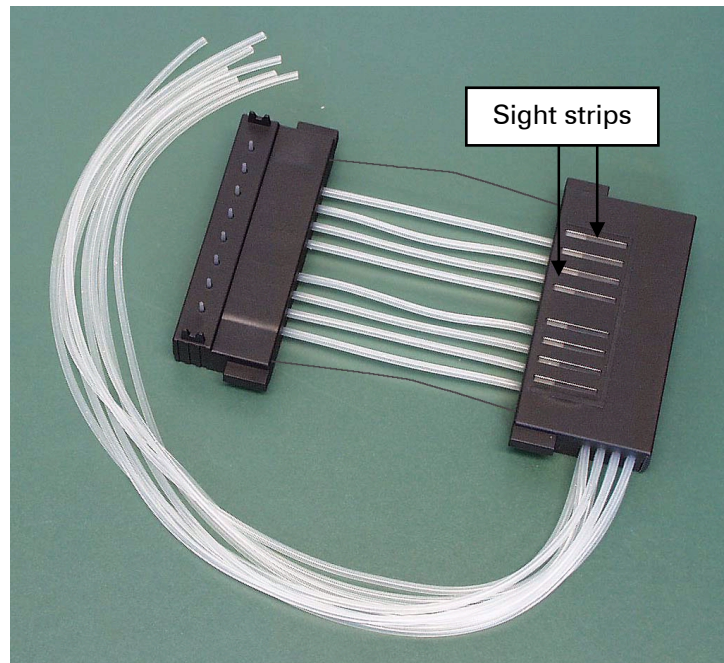
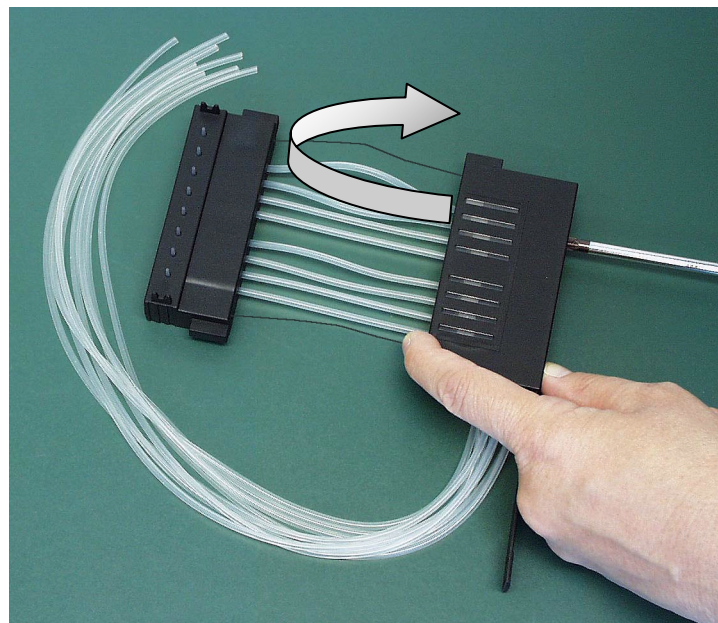

Fig. 7.32 Dispensing cassette before precalibration
Fig. 7.33 Precalibrating the dispensing cassette
17. Turn the dispensing cassette so that the eight sight strips are visible (*Fig. 7.32*). Look at the eight sight strips in the upper part of the dispensing cassette. You will notice that the tubes are not precalibrated. First open the calibration screw cover. For precalibration of the dispensing cassette, adjust the tube fasteners in the sight strips roughly to the middle using a hexagonal screwdriver (*Fig. 7.33*).